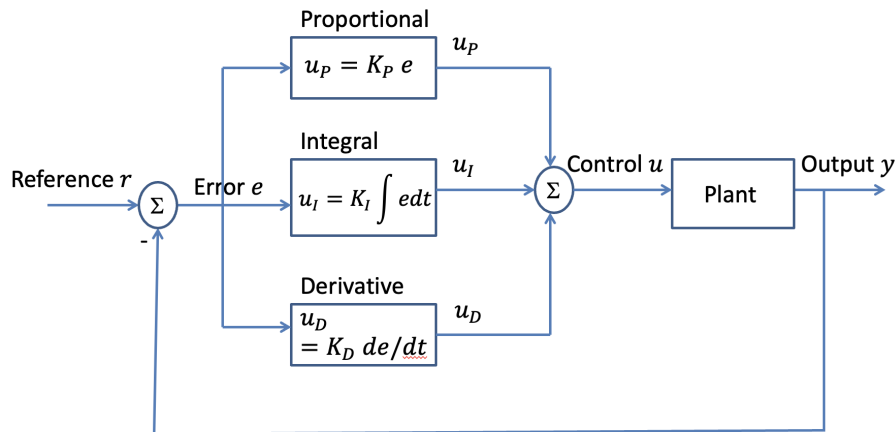

Figure 7: Generic representation of a PID controller.
- (m) To reduce overshoot while keeping a relatively short settling time, we could look at how fast the error is *changing* over time—in a sense, “look into the future.” What modifications would you make to your PI pseudo-code to incorporate this rate of change? (Hint: the continuous version is presented in Figure 7.)